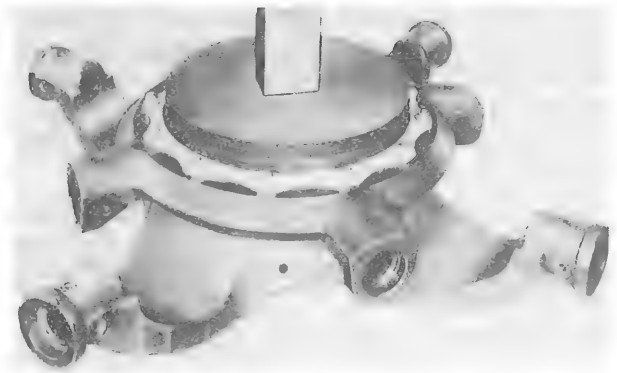

Figure 5-14. Pressing Stationary Star onto Rotating Star
rotating star assembly (1) into stationary star assembly (3). Place a plate, part No. S1670-10331-3, over rotating star assembly and press stars together until rotating star seats stationary star. (See figure 5-14.) Remove plate.